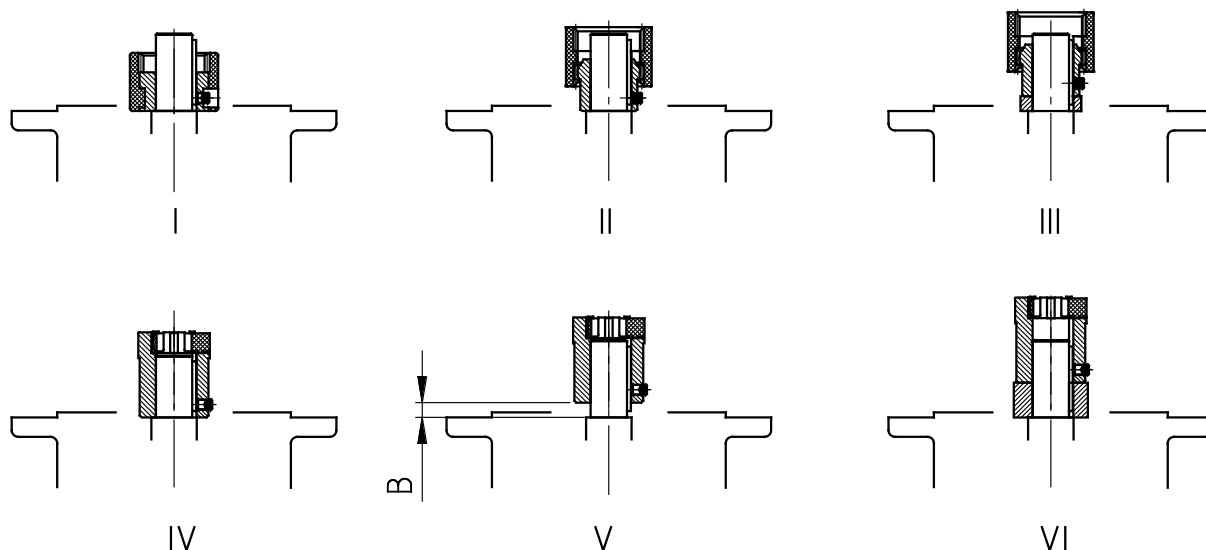

Figure 14: Fitting the coupling onto the motor shaft - various types of coupling
3. Tighten the coupling sleeve on the motor shaft in accordance with the motor manufacturer's instructions until it touches the collar. With motor sizes 90, 160, 180 and 225, any spacer bushes must be positioned between the coupling sleeve and the collar. With standard helical gear units, dimension B between the coupling sleeve and the collar must be observed (see Figure 14). Certain **NEMA adapters** require the adjustment of the coupling in accordance with the specifications indicated on the adhesive plate.
6. Mount the motor to the adapter. Do not forget to fit the gear rim or the sleeve (see Figure 14).